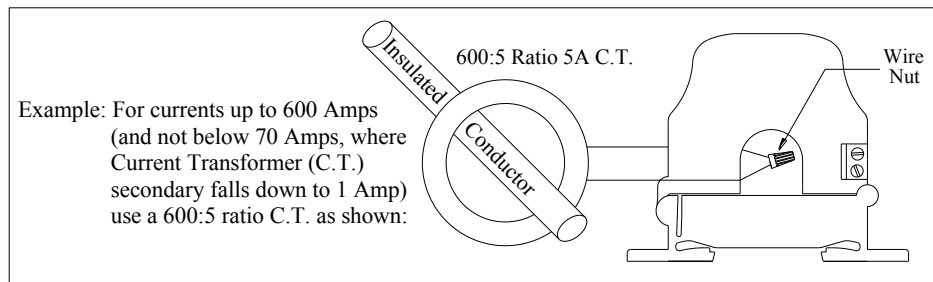

Figure 6: Current Transformer
*For applications in which the normal operating current is greater than 200 or 250 Amps (see **operating specifications** below) or for conductor diameters larger than 0.750” (1.90 cm) in diameter, an external 5 Amp Current Transformer must be used as shown in **Figure 6** below (on next page)*